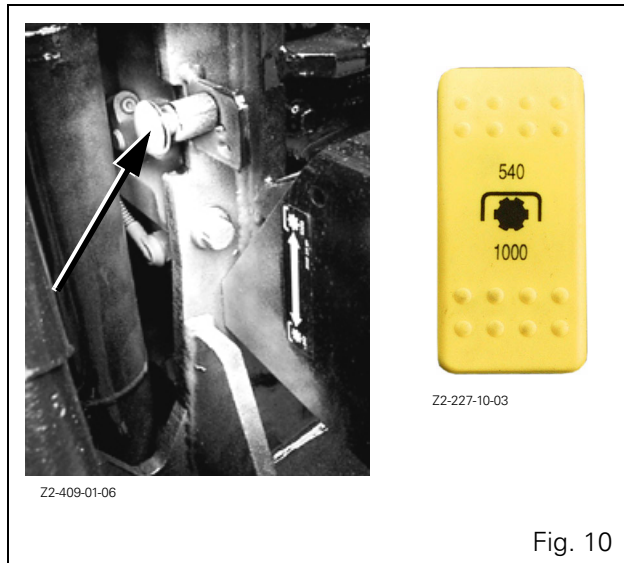

Fig. 10
Either of the PTO speeds is selected using a lever (Fig. 10) located on the outside on the rear left side of the center housing or using the lever in the cab (Fig. 9).
**CAUTION:** Place the synchro switch Fig. 10 in the correct position (540 or 1000 rpm). The PTO must be disengaged during the procedure.